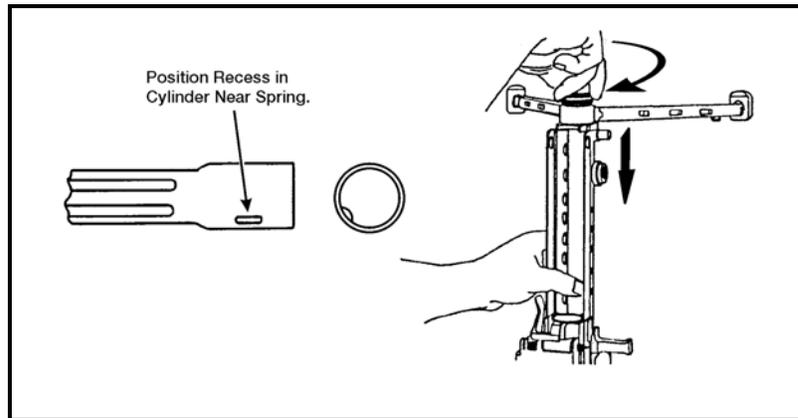

Figure 071-312-4025-22. Replacement of the bipod and gas cylinder
(1) Place the bipod on the receiver.
(2) Push the gas cylinder through the bipod yoke into the receiver.
(3) Push the cylinder to the rear while countering the pressure of the locking spring and guiding the end of the cylinder into the receiver with the other hand applying downward pressure. When you have fully inserted the gas cylinder, rotate it until the spring clicks into place in the recess at the rear of cylinder (figure 071-312-4025-22).